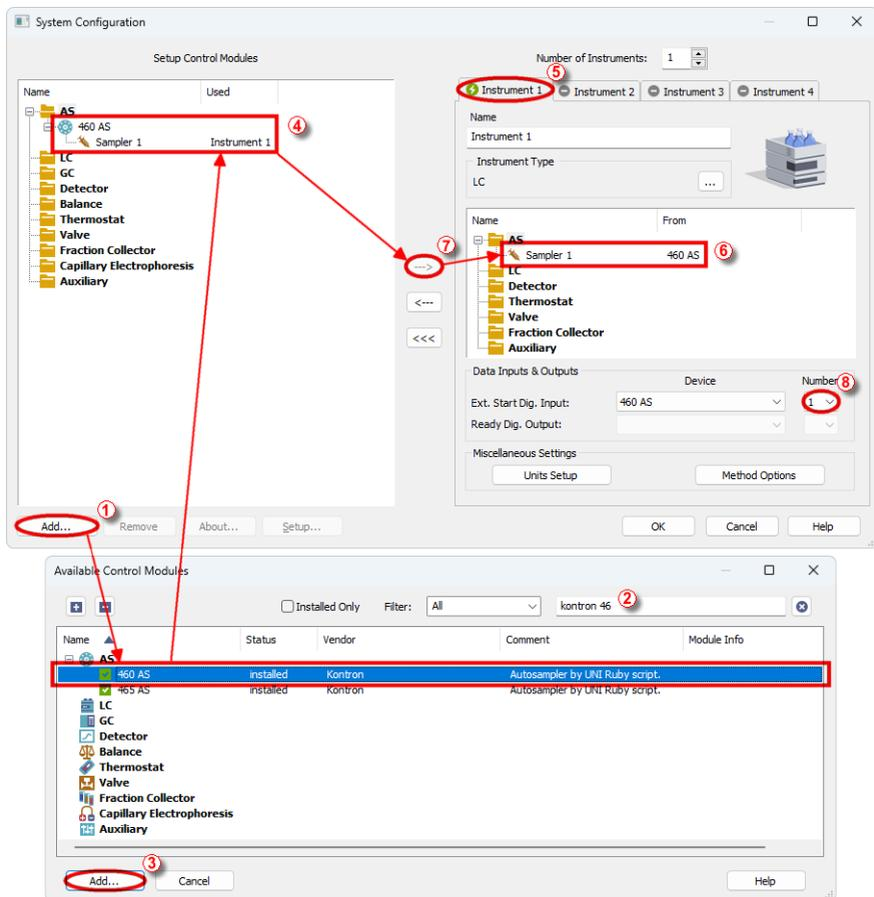

Fig. 3: How to Add Kontron 460/465 module
- Press the *Add* button (① on Fig. 3 on pg. 4.) to invoke the *Available Control Modules* dialog.
- You can specify the search filter (②) to simplify the finding of the driver.
- Select the correct item and press the *Add* (③ on Fig. 3 on pg. 4.) button. Each device with already created UNI profile should have its own item